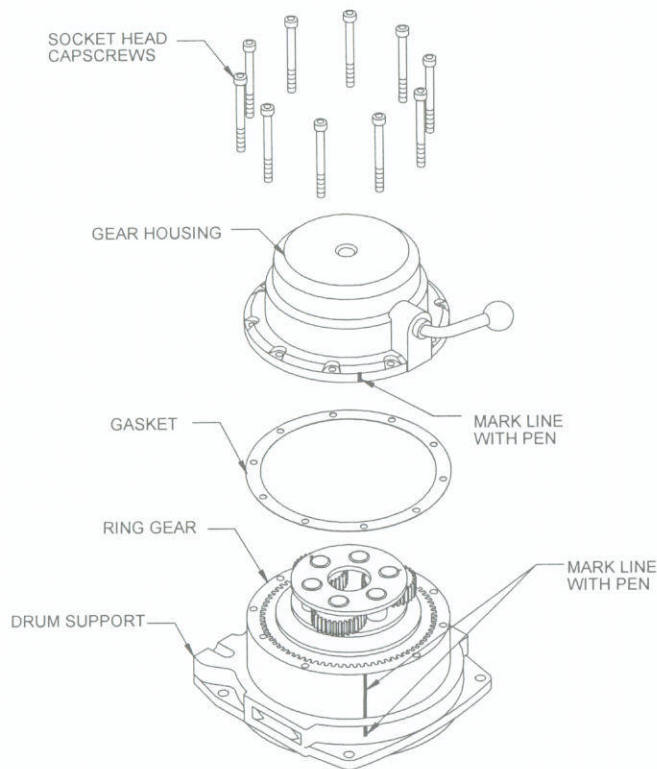
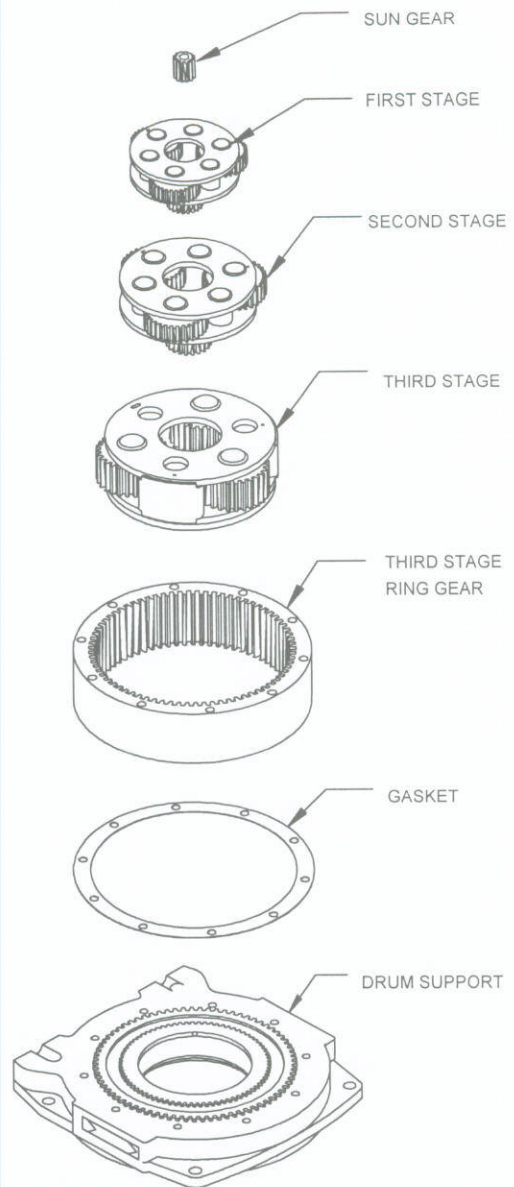
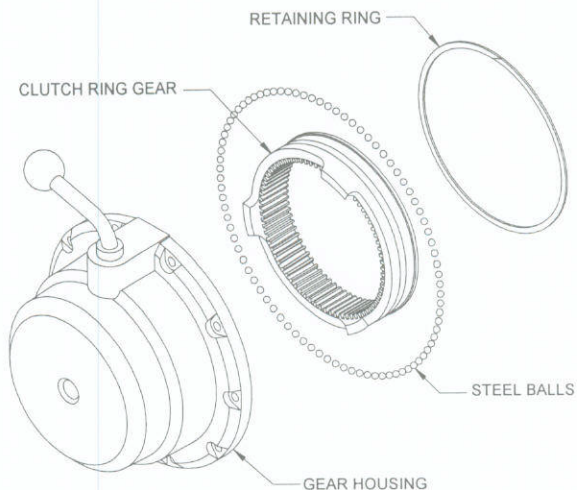

Figure 2.3
Figure 2.4
Figure 2.6
4. Rotate the gear train so that the ten socket head cap screws are facing up (*Figure 2.3*). Remove the ten cap screws. Mark the housing ring gear and drum support with a marking pen in one location so they can be easily re-aligned during assembly. Remove the housing and ring gear.
5. Remove the three stages of planetary gears from the drum support (*Figure 2.4*). Also remove the loose first stage sun gear.
7. From the previously removed gear housing, remove the large lock ring adjoining the clutch ring gear (*Figure 2.6*). Use a screwdriver or other thin tool to lift the ends of the ring out of the groove. Remove the clutch ring gear carefully so that the 85 ball bearings between it and the gear housing fall into the housing and not on the work bench or floor.
5. With the drum support seal facing down, place a gasket over the ten tapped holes and then the large ring gear on top of it (*Figure 2.4*). Align the markings previously made during disassembly (*Figure 2.3*).
6. Using a grade of moly-disulfide grease with good performance between -50°F and +125°F (Aeroshell 17 is recommended), coat the inside of the ring gear teeth until all of the spaces between the teeth are filled. Install the third stage carrier, center spline down (*Figure 2.4*).
7. Completely fill the center hole in the third stage carrier, between the planet gears and up to the top of the carrier plate, with grease. Insert the second stage carrier into the third stage. Fill the second stage carrier hole with grease. Insert first stage carrier. Fill first stage center hole with grease. Insert loose sun gear into the first stage (*Figure 2.4*).
8. Fill the spaces between the teeth of the clutch ring gear with grease (*Figure 2.6*). Place a gasket on top of the large ring gear. Using a very thin screwdriver, hold clutch detent pin in place while turning gear housing over onto the gears. Line up marks previously made (*Figure 2.3*).